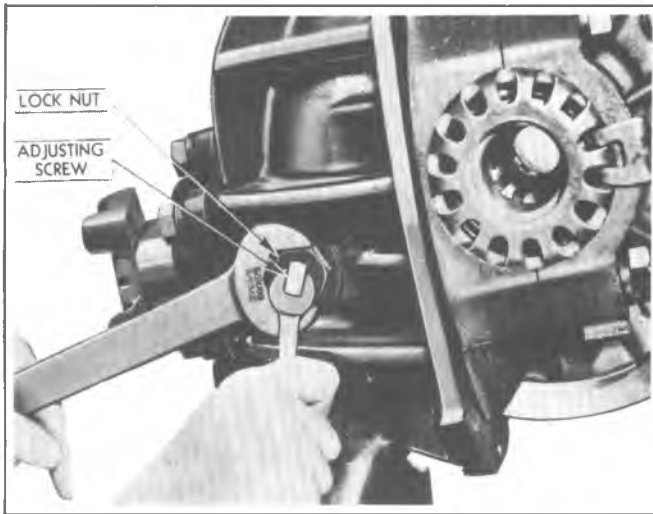

Fig. 11G--Ring Gear Thrust Pad Adjustment
3. Back off screw one-twelfth (1/12) turn and tighten locknut to specifications. See figure 11G.